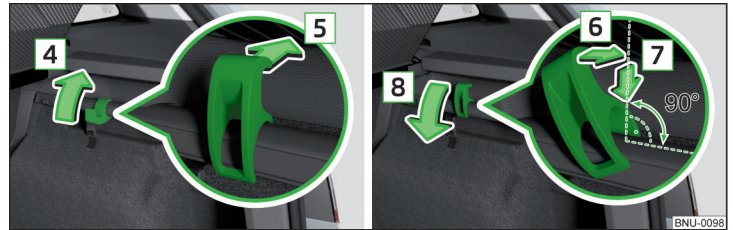

Fig. 141 Removing/inserting hook
- » Move the hook into the vertical position in the direction of the arrow **4** » Fig. 141.
- › Place the hook in the direction of the slant on the fastening strip and straighten in the direction of the arrow **6** » Fig. 141.